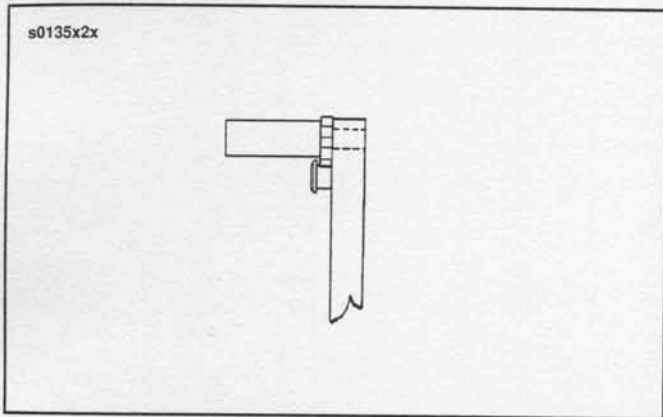

Figure 2-50. Threaded Bushing/Rivet Engagement
See Figure 2-50. The threaded bushing's flange must go **UNDER** the rivet head during assembly. At the same time, one of the U-shaped notches on the outer edge of the bushing flange must engage the rivet body. If the bushing is not positioned properly the rivet will be damaged when the mounting bolts are tightened.
3. See Figure 2-50. Place a flat washer (3) on upper mounting bolt (1), then insert the bolt through the fork lug, and the mounting plate (7). Thread the bolt into the threaded bushing (4).
4. Insert the lower mounting pin (2) through the caliper and the fork lug. Thread it into the tapped hole at the lower end of mounting plate (7). Tighten lower mounting pin to 25-30 ft-lbs (34-41 Nm).
5. Tighten upper mounting bolt (1) to 25-30 ft-lbs (34-41 Nm).
1. See Figure 2-50. Remove retainer screw (15), pad retainer (14) and inside pad (9).
2. Remove the outer pad (9), mounting plate (7 or 7A) and spring clip (8) as an assembly. Remove pad (9) from mounting plate (7) by pushing the pad free of the spring clip (8).
3. Pry out the retaining wire (13) by inserting a small screwdriver into the notched groove at the bottom of the piston bore.
1. See Figure 2-50. Apply a thin coating of GE Silicone Versilube grease (G322L) to the exterior surfaces of seal (10) and O-rings (6) in their respective grooves. Lightly coat the cavity of pin boot (5) with Dow Corning 44 grease. Insert the flanged end of pin boot (5) into the internal groove of the threaded bushing bore.
2. Push the piston dust boot (12), with the open side downward, over the top of the piston. Push downward on the boot until the inner lip seats in the groove at the top of the piston.
3. Coat the outside diameter and bottom chamfer of piston (11) with GE Silicone Versilube grease (G322L) and push the piston with dust boot into the piston bore. If necessary, press the piston in with a "C" clamp.
9. See Figure 2-50. Take the pad (9) that has the insulator backing, and place it on top of the spring clip with the lower end of the pad slightly entering the opening of the mounting plate. With the pad centered within the mounting plate and the insulated back facing downward, push down on the pad until it is against the flat surface and is held firmly by spring tension from the spring clip.
10. Insert the outer pad (9), mounting plate (7) and spring clip (8) assembly into place with the backside of the pad against the face of the piston.